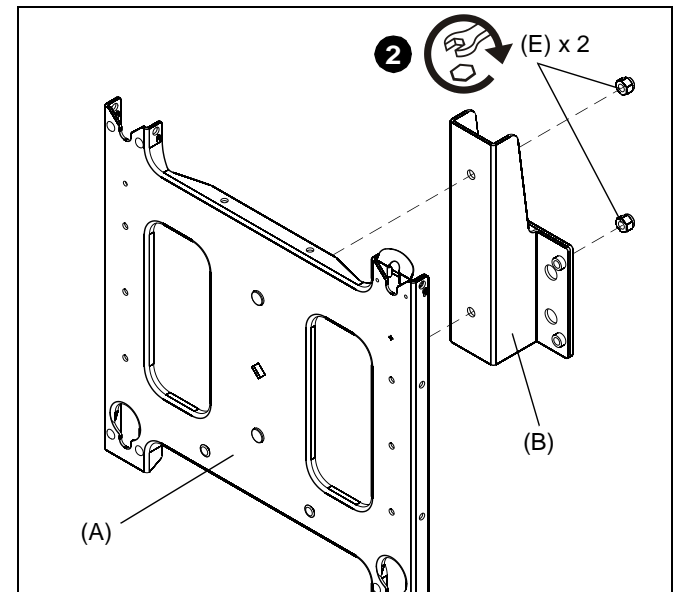

Figure 3
2. Attach second faceplate (A) to bracket (B) using two 3/8-16 Nylock lock nuts (E). (See Figure 3)